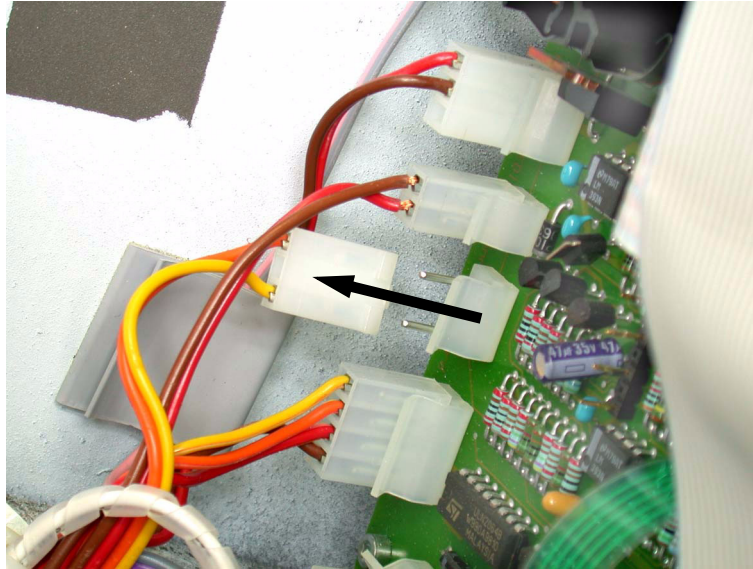

Figure 9-39. The nebulizer valve connector temporarily disconnected from the connector board
- a. Ensure that the nebulizer valve remains closed during the check, by temporarily disconnecting it from the connector board, as shown in Figure 9-39.
- d. Reconnect the nebulizer to the connector board. (This is a reversal of Figure 9-39 on page 9-75.)